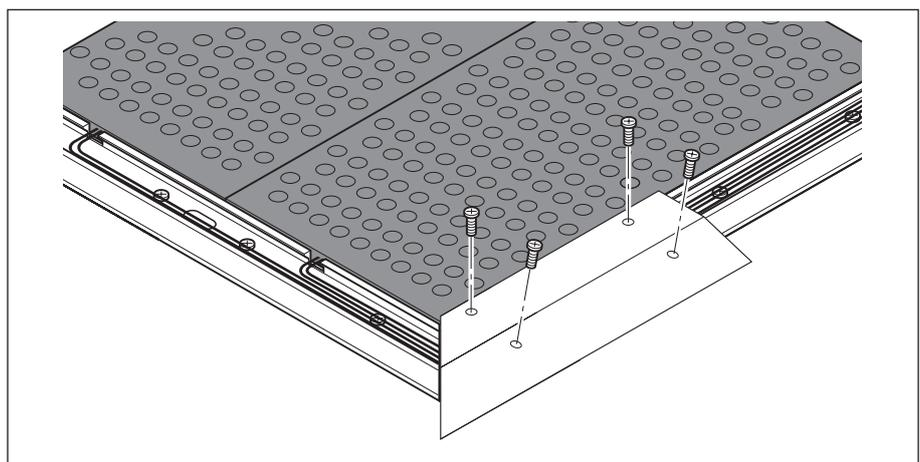

Fig. 5-9: Screw on upper sections of ramp rails
3. Saw off upper sections at the points marked (see Fig. 5-9, pg. 14).